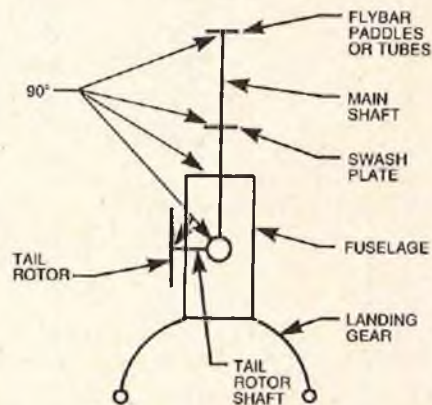
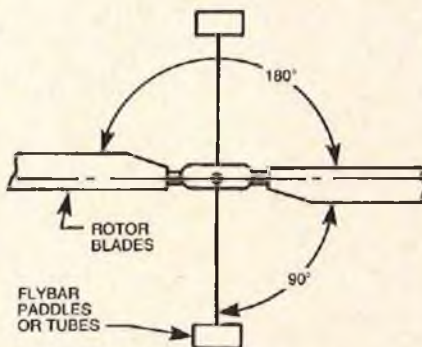

FIGURE 1
FIGURE 2
(1) Everything in a helicopter must be either 90° or exactly parallel to each other. Figures 1 and 2 illustrate this point.
(2) The rotor blades, both main rotor and tail rotor, must be balanced as closely as possible.
You will notice that, in Figure 1, we show some 90° related components. Turn the receiver and transmitter on with your trims set at neutral. Adjust the swash plate so that it is 90° to the main shaft by adjusting the pushrods on the front of the swash plate as well as on the side. Once it is 90° to the main shaft, install the rotor head and, with the blades parallel to the boom, adjust the pushrod going to the head to set the paddles, or tubes, so they are 90° to the main shaft. This should give you a basic set-up for the head and cyclic controls. The tail rotor shaft should also be 90° to the main shaft. Figure 2 shows two more places to check for 90°, or parallel, condition.